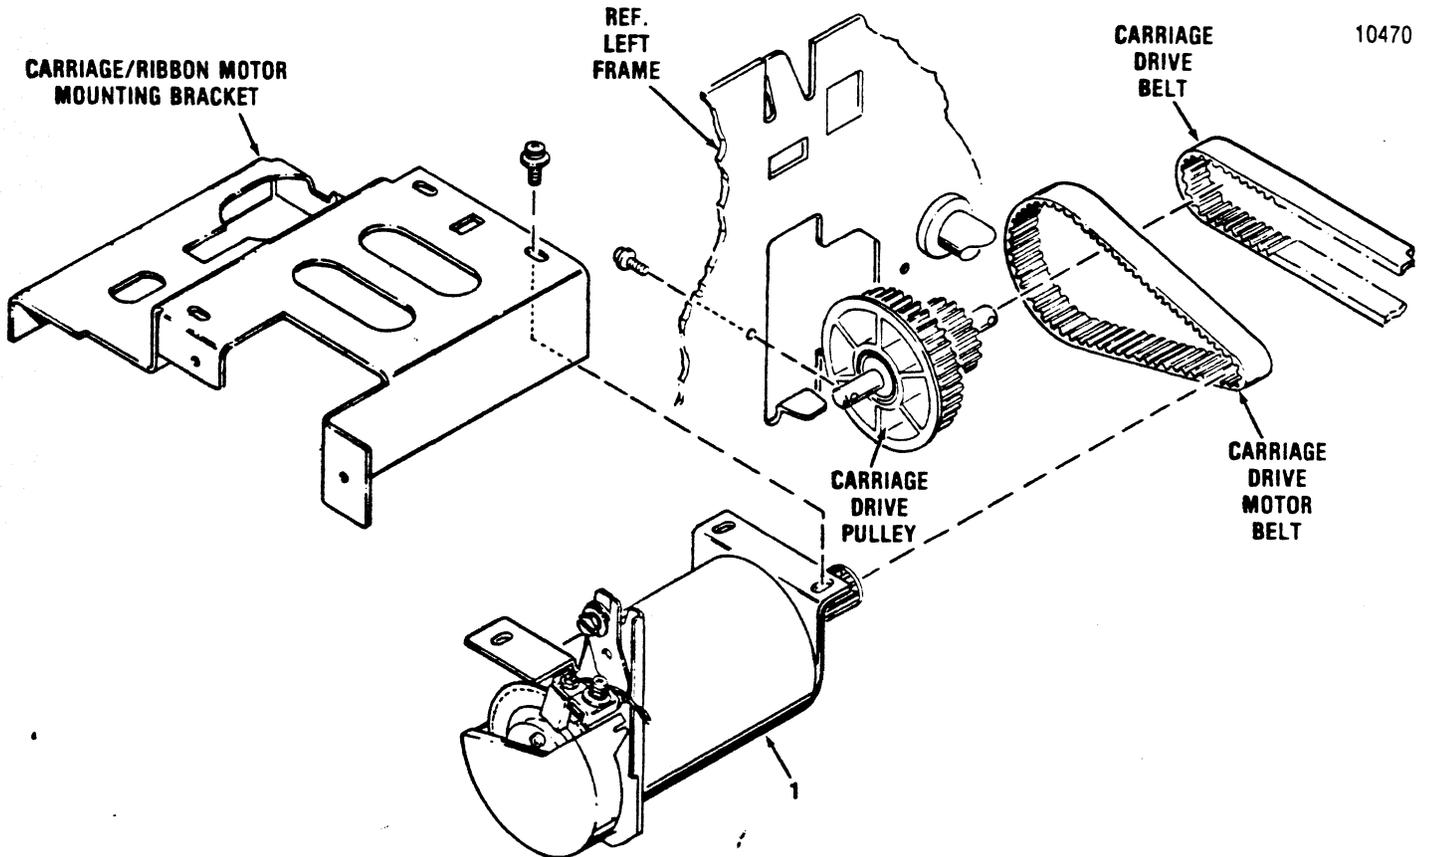

Figure 5-10. REMOVAL/REPLACEMENT, CARRAIGE DRIVE MOTOR
The carriage drive motor, item 1 of Figure 5-10, is attached to the carriage drive motor and ribbon drive motor mounting bracket and is removed using a Phillips head screwdriver. To remove the carriage drive motor, refer to Figure 5-10 and perform the following steps: